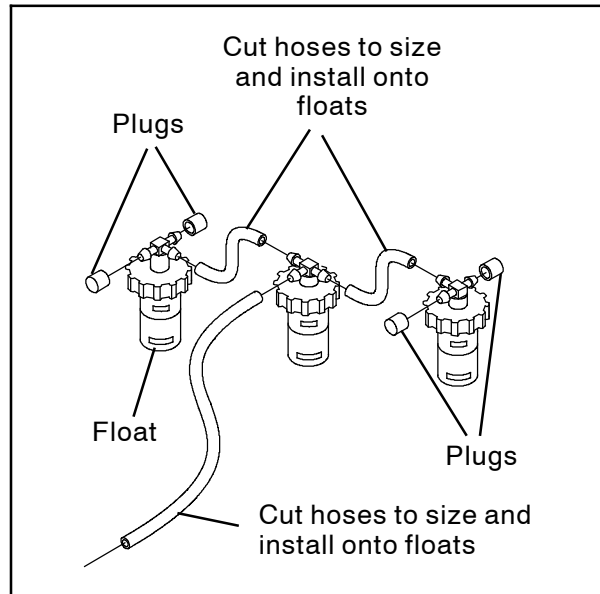
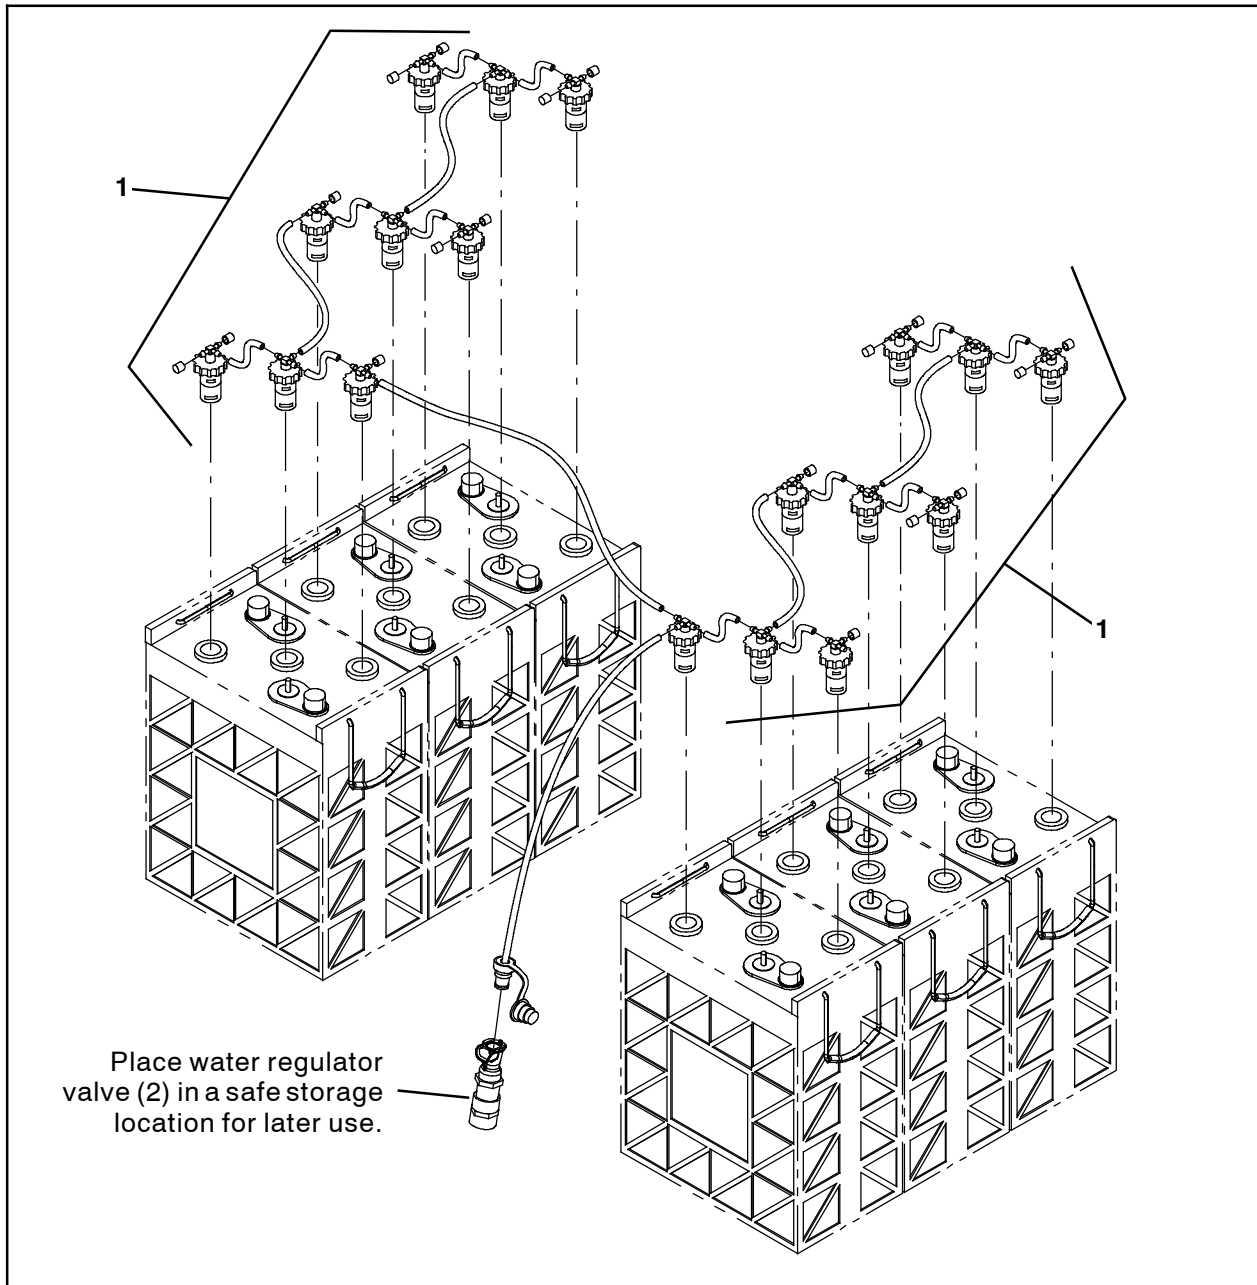

FIG. 2
FIG. 3
2. Install the battery watering system (1) floats into the batteries. (Fig. 3)
3. Cut the battery watering system (1) hoses to length. (Fig. 2 / Fig. 3)
4. Install the battery watering system (1) hoses onto the floats. (Fig. 2 / Fig. 3)
5. Install the battery watering system (1) plugs onto the remaining open ports on the floats. (Fig. 2 / Fig. 3)
7. Place the water regulator valve (2) in a safe storage location for later use.